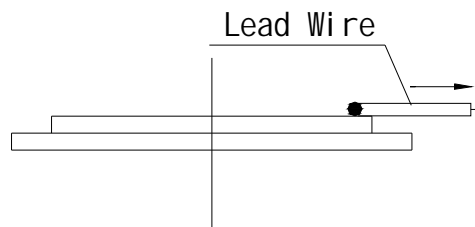

Fig.2 Direction of Lead Wire
a) Wire to be soldered on ceramic at the edge. It should withstand minimum 1 kg force applied in 180° .The wire should not come out before this .The ceramic can be either glued on a surface of can be held in hand.(Fig.2)